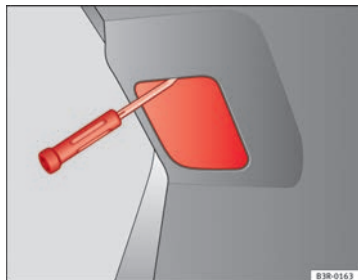

Fig. 215 Remove the cover from the tailgate
- Insert a screwdriver into the opening in the cover from the top ⇒ fig. 215 and use it as a lever to detach the cover.